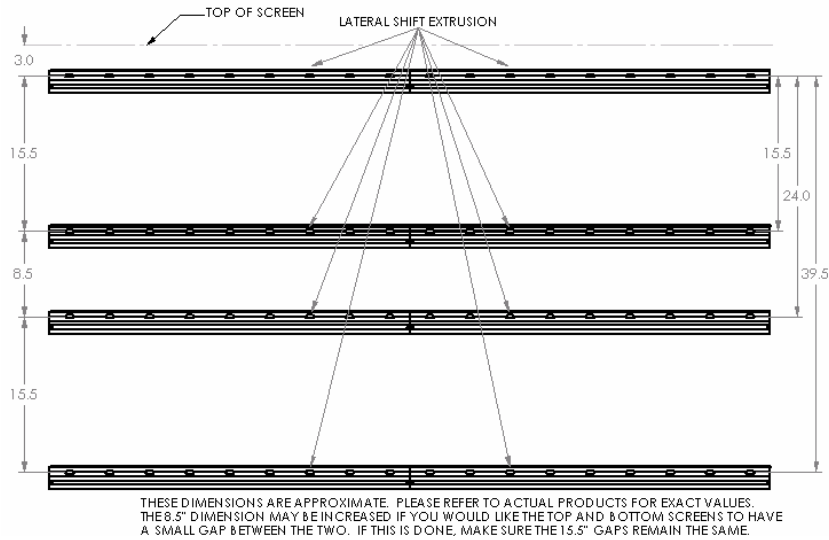

Figure 5
2. Install the remaining six lateral shift extrusions (see Figure 5).